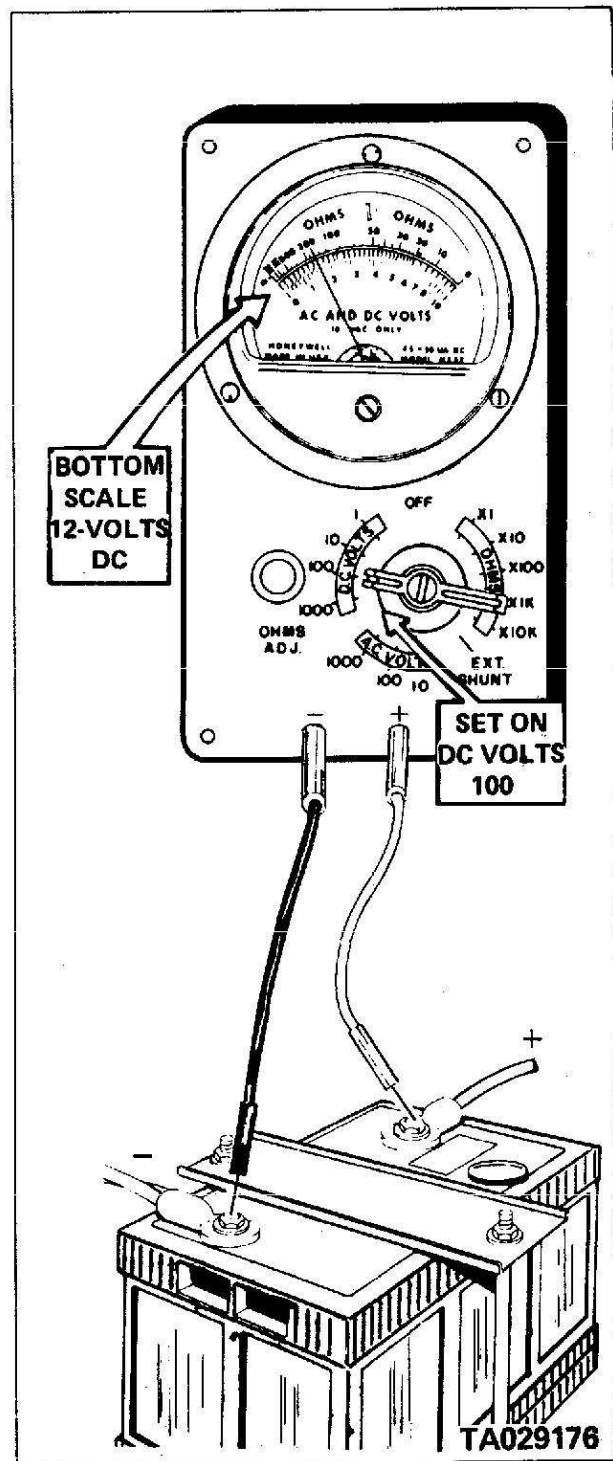

Figure 2-23. Measuring Battery Voltage.
c. Connect the red probe to the positive (+) side of the circuit and the black probe to the negative (-) side. See figure 2-23.